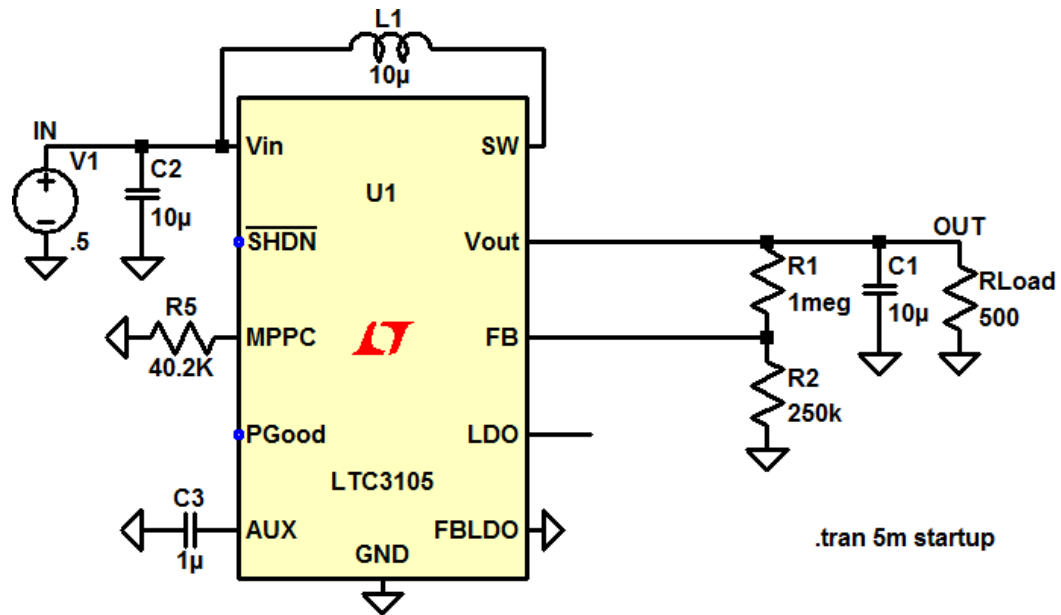

Figure 57: Reference schematic for 5-volt design. Note: R_{load} simulates a 10mA load (5V/500Ω) Note: LDO not connected on purpose.
- Use surface mount parts from Figure 57. This is done so that we can buy the parts for every project in an efficient manner. Note you might not need all of them. You really need to choose the R values to set the voltage properly at the 5.0V side. The other outputs we do not need.